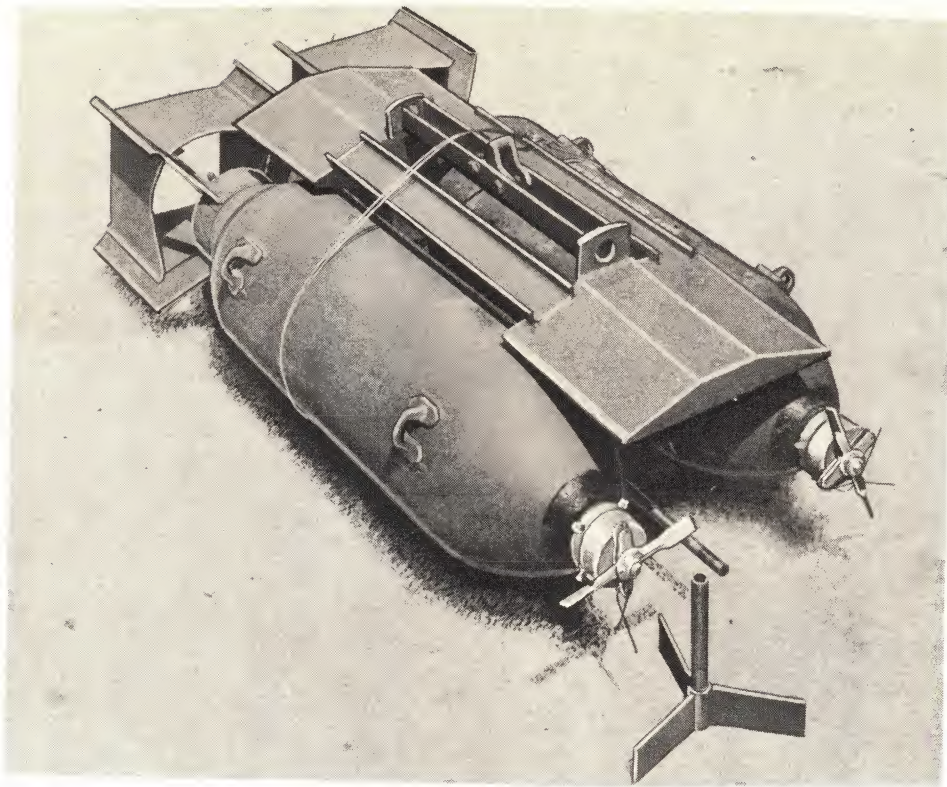
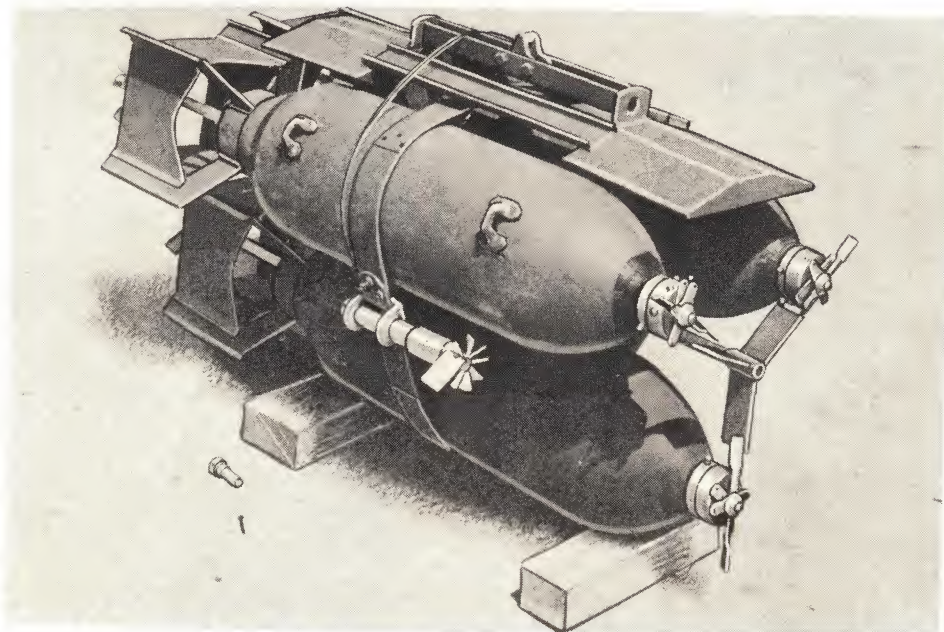
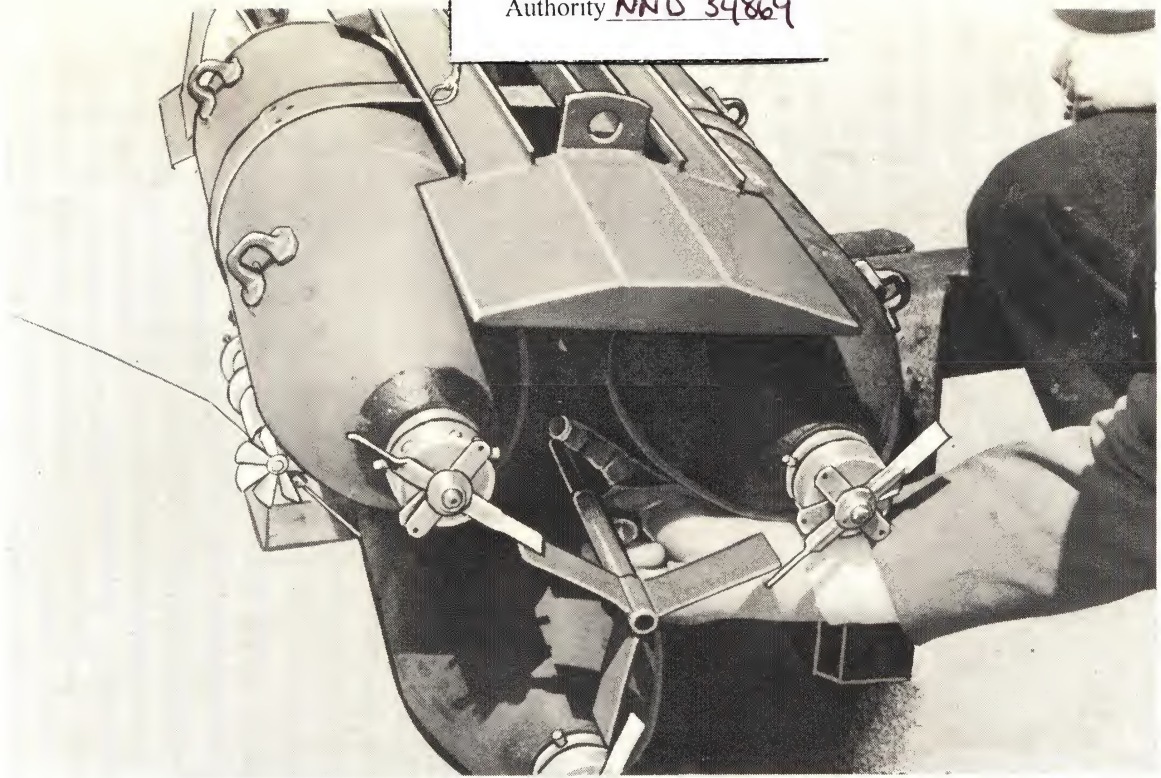

FIG. 6 - STEPS OF ASSEMBLY
FIG. 7 - STEPS OF ASSEMBLY
FIG. 8 - STEPS OF ASSEMBLY
(1) Place adapter on the deck in upright position as shown in Fig. 6 and place two bombs in adapter, securing them in place by wire or suitable means.
(2) Place band on the deck face down ("face" is the side with stencilled data) with the take-up bolt extended to approximately full length. Then place the third bomb on band approximately 12 inches from one end of band (either end) with single suspension lug up. (Note: in steps (2) and (3) care must be taken to engage the single suspension lug of each bomb in the baffle plate assembly to insure positive restraint against fore and aft motion.)
(3) Hoist the adapter to which the two bombs are temporarily secured and place it on the single bomb located on the deck. Wrap band around the loaded adapter, engage the band clamps, and slip the pistol assembly over the clamps with the arming vane forward. With the pistol assembly on the band, slip the cartridge chamber into place, and secure by inserting the two cotter pins. (See Fig. 7)
(4) Tighten the band until the bombs are held snugly in the adapter. Care should be taken to tighten the band only enough to securely hold the bombs and adapter together. DO NOT OVER-TIGHTEN. Remove wires originally used to hold the upper two bombs in place while assembling the cluster.
(5) Remove both release wires which held the displacing springs in cocked position while assembling cluster (see Fig. 8).
(6) Locate fuze arming safety plate as shown in Figure 8 and install cotter pin. Note that the safety plate is installed backwards (Figure 3) when 90-lb. fragmentation bombs are used in the cluster. Check the fuze arming vanes to make certain they are prevented from rotating by the fuze arming safety plate.